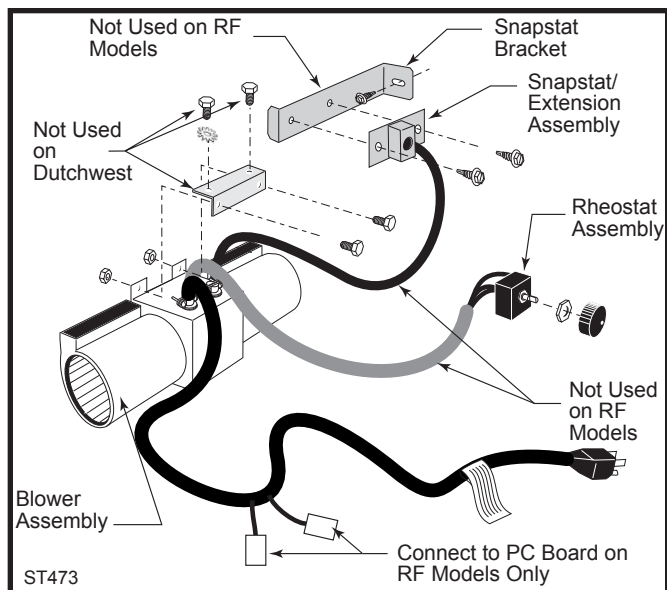

Fig. 12 Fan kit components.
1. The fan kit includes a Blower Assembly and a Rheostat Assembly, connected by a cable. (Fig. 12) The Blower Assembly mounts to the bottom rear of the stove, and the Rheostat mounts to the valve coverplate. The assembly includes a 'snapstat' which automatically turns the fan On (or Off) above (or below) approximately 109°. The Rheostat also provides a range of fan speed settings from Off (which overrides the snapstat function) to High. Unpack and inspect the Blower assembly. Confirm that the fan spins freely.